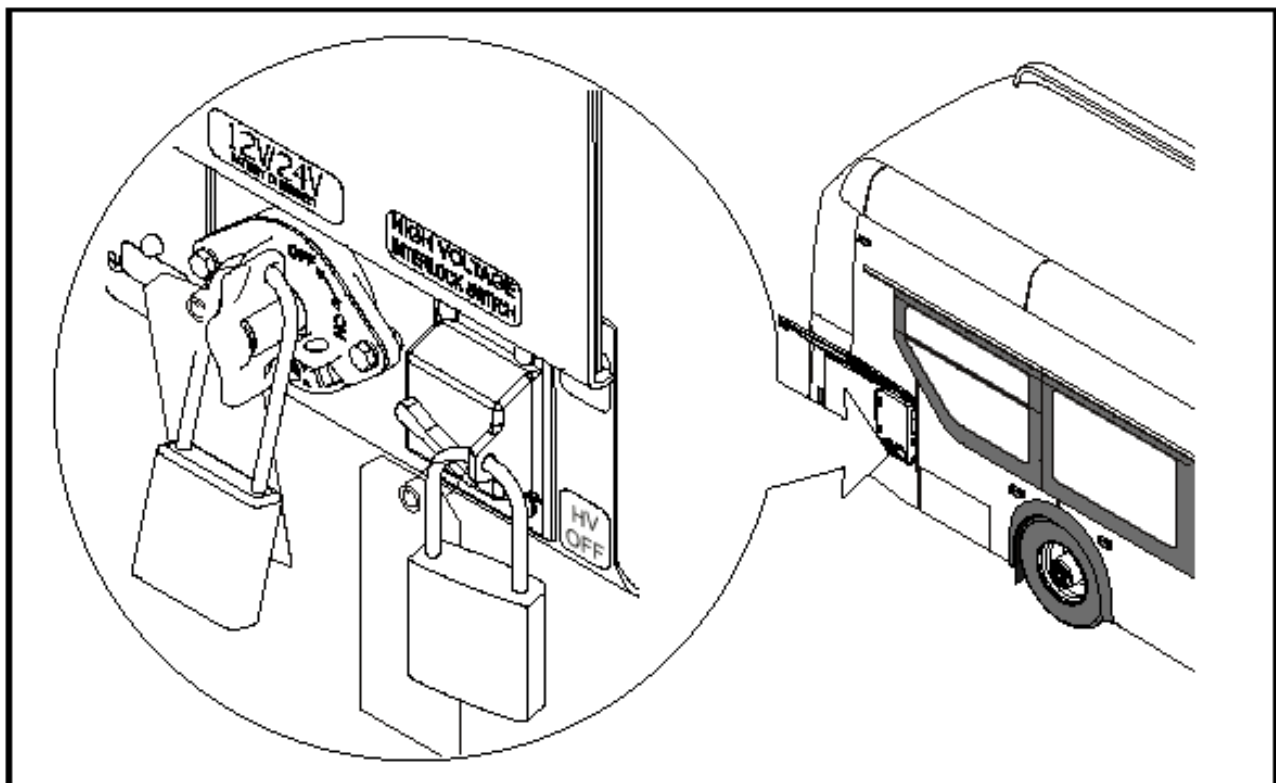

Figure 1: Lockout tagout location reference.
3. Lock and Tag the electrical system of the bus out and retain the key. See Figure 1.